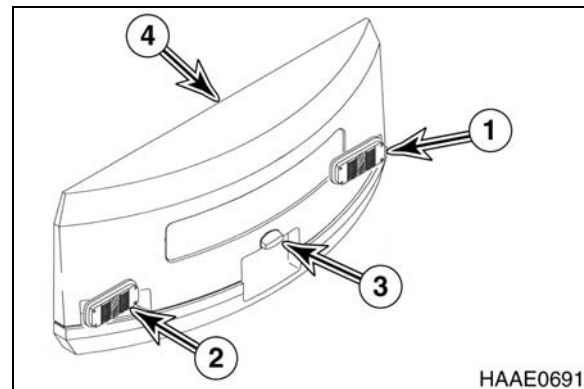

Figure 4
12. If unit has tail lights, etc.; tag and disconnect wiring harnesses from tail lights (1 and 2, Figure 4) and license plate light (3).
NOTE: *Make sure that all harnesses and mounting hardware are removed from counterweight (4, Figure 4).*